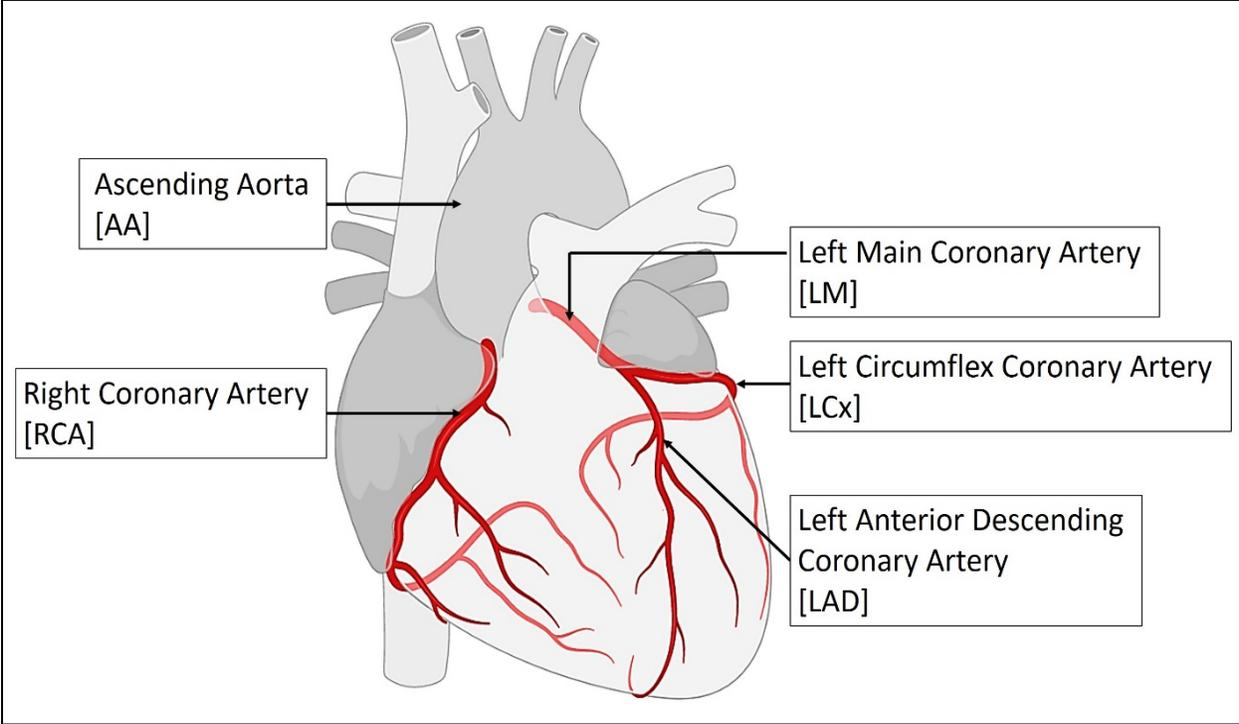

Figure 1 Anatomy of the human heart including the aorta and major coronary arteries
- 7.4.1 Section the major coronary arteries including left main, left anterior descending, left circumflex, and right coronary by making serial sections on a transverse plane at 3-5 mm intervals throughout the entire length of the artery. (Appendix 1, Figures 1 and 2).